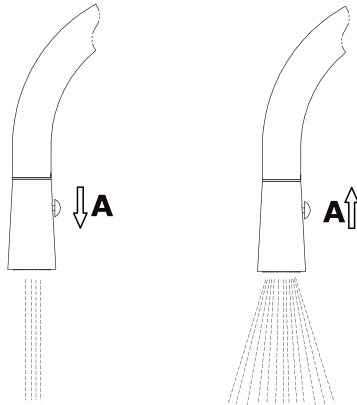

FIG. 2b
- ➔ When the tap is turned on, by moving / pressing push-button **A** (see fig. 2b) the water flows out of the aerator and is then diverted to the shower. To get the flow back to aerator position move rear push-button **A** (see fig. 2b).